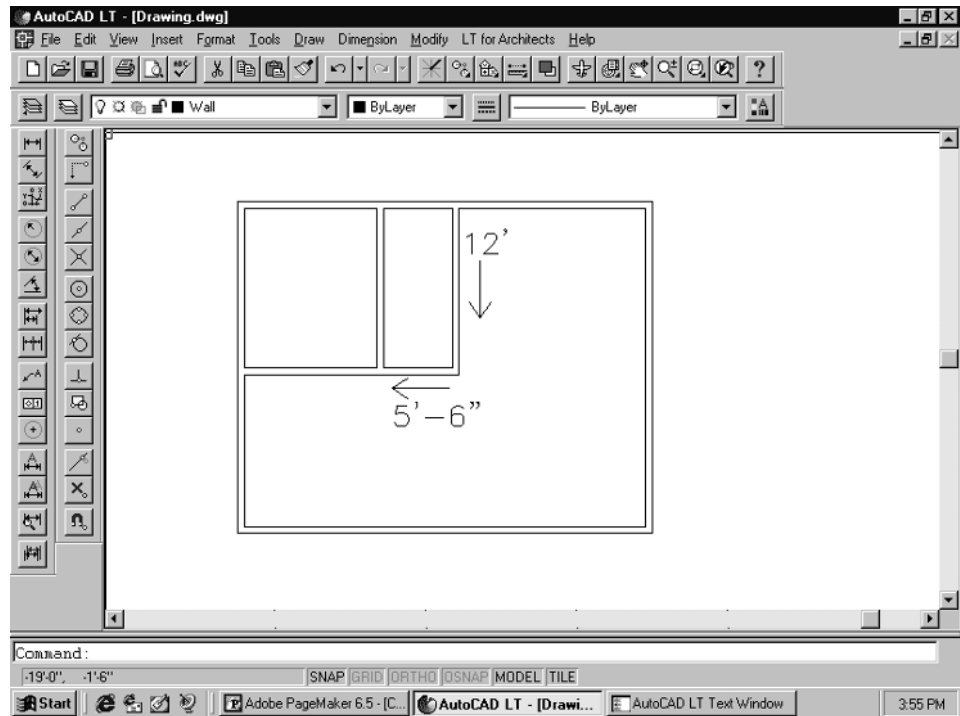

Figure 2-13
4. To continue with these new interior walls, first make sure the Double Line command is still active. If it is not, type **DLINE** and **Enter**. At the *Specify next point or [Arc/Break/CAs/CLose/Dragline/Snap/Undo/Width]* prompt, pull the cursor down and type **12'** and **Enter**. This will draw the first segment of the interior wall. The command line *Specify next point or [Arc/Break/CAs/CLose/Dragline/Snap/Undo/Width]* will appear. Pull your cursor left, type **5'6**, and **Enter**. This should draw the second interior wall segment, and automatically join it to the existing left side interior wall corner, as shown in Figure 2-13.